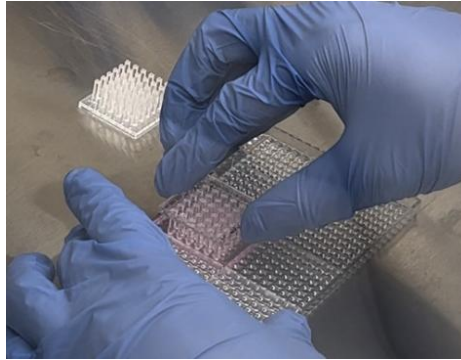

Figure 5. Stamping of the 36PillarPlate on the LoadingPlate to load cells suspended in Matrigel on pillars.
14. Stamp the 36PillarPlate on the LoadingPlate and press gently to load the cell-Matrigel mixture evenly on the entire pillar plate. Repeat this cell loading step for another pillar plate (**Fig. 5**).